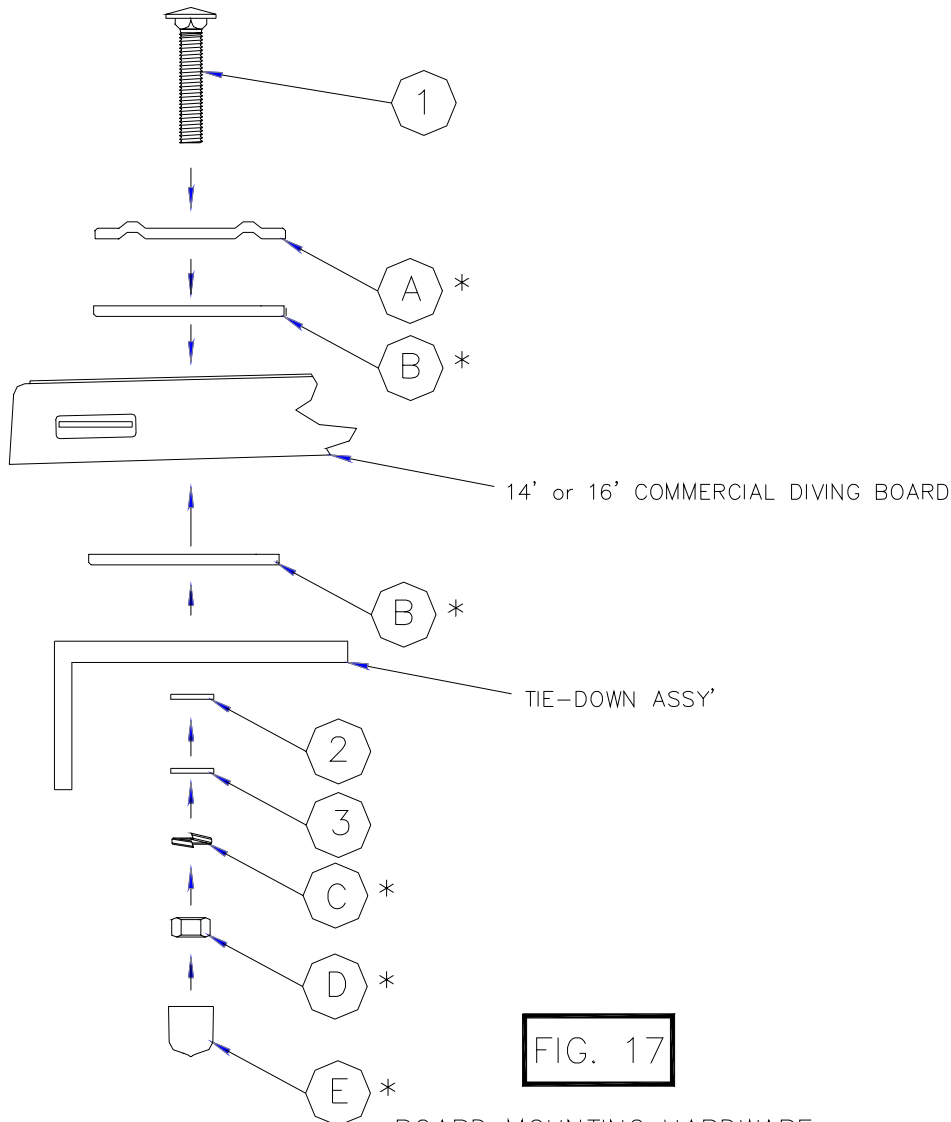

FIG. 17
14. Secure the Diving Board to the Tie Down Assembly according to Fig. 17 and tighten hardware between 20 and 25 ft. lbs. Do not over tighten.